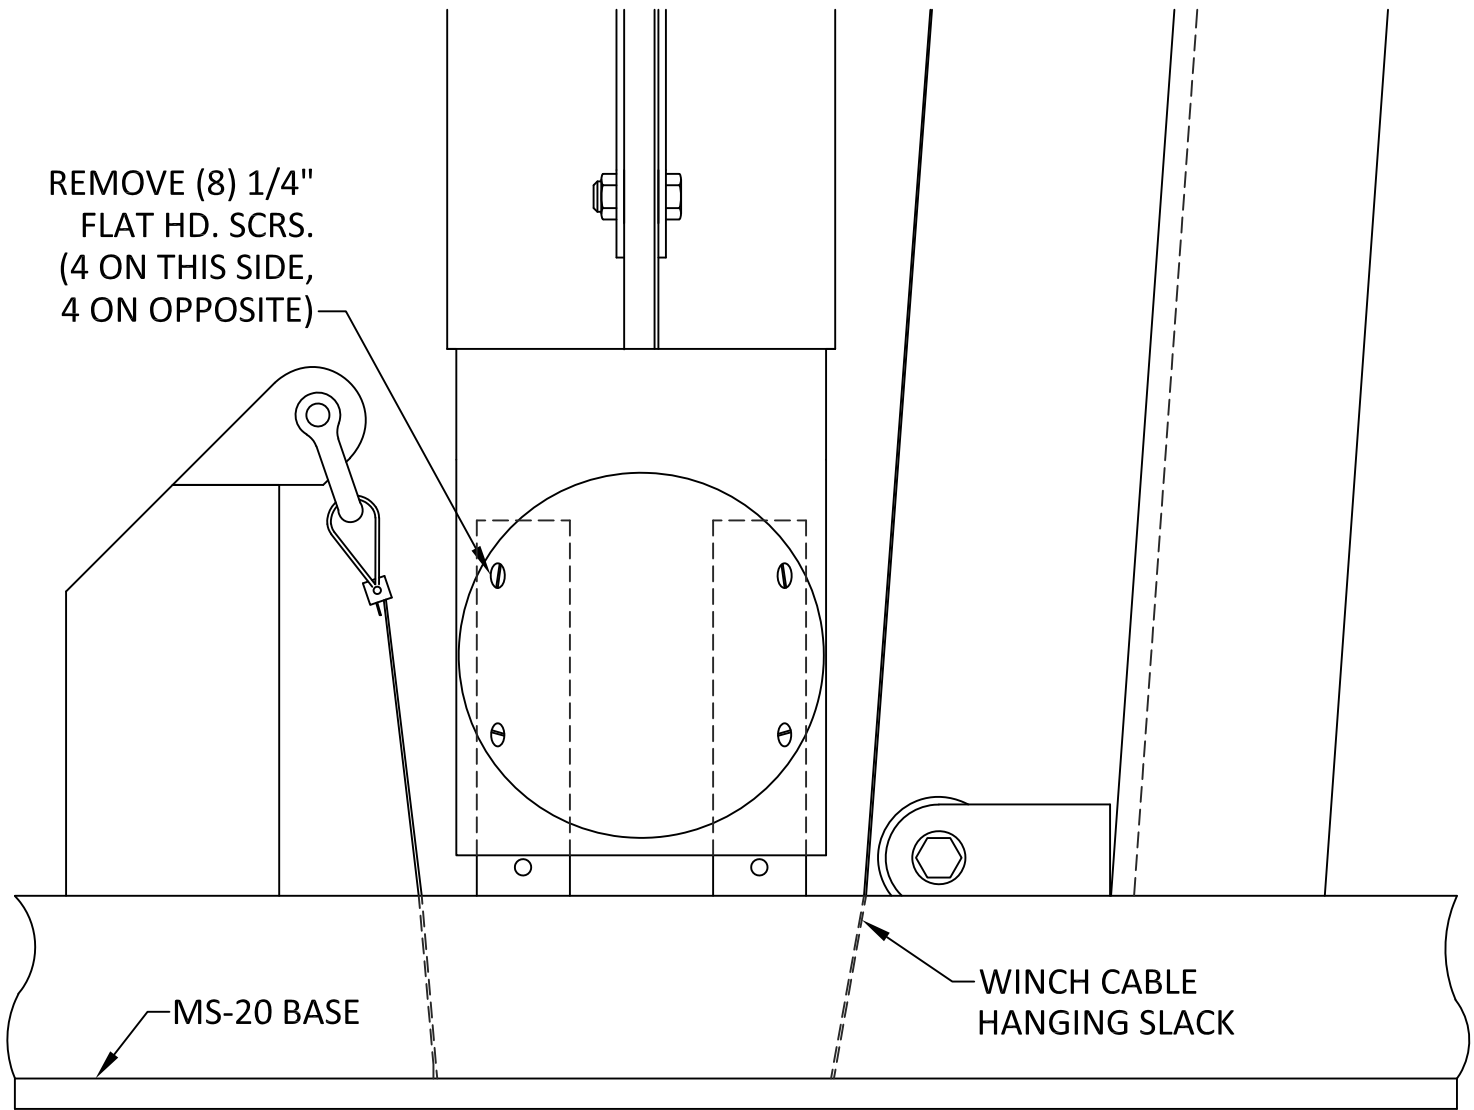

FIGURE 7-3
7.1.2 Mounting Socket Sheave Assembly Replacement Instructions. – The mounting socket sheave assembly must be replaced if the sheave does not rotate freely when it is disengaged from the winch cable. If the MS-20 structure is lowered and raised when the sheave is not free to rotate, then greater effort will be needed to operate the winch and the winch cable will wear out prematurely. To replace the mounting socket sheave assembly, the MS-20 LIR structure must be secured in the raised position. (The three 1/2" sleeve bolts must be tightened and the alignment pin must be in place). Disengage winch cable from mounting socket sheave by removing the (2) pins that keep cable engaged to the sheave, then by turning several windings of cable off of the winch drum so that the slack cable down below the sheave hangs. Now, with a flat blade screw driver, remove the eight 1/4" flat head machine screws that hold the mounting socket sheave assembly in place. (See Fig. 7-3) Remove the mounting socket sheave assembly by grasping the sheave and sliding it out through the bottom of the mounting socket.